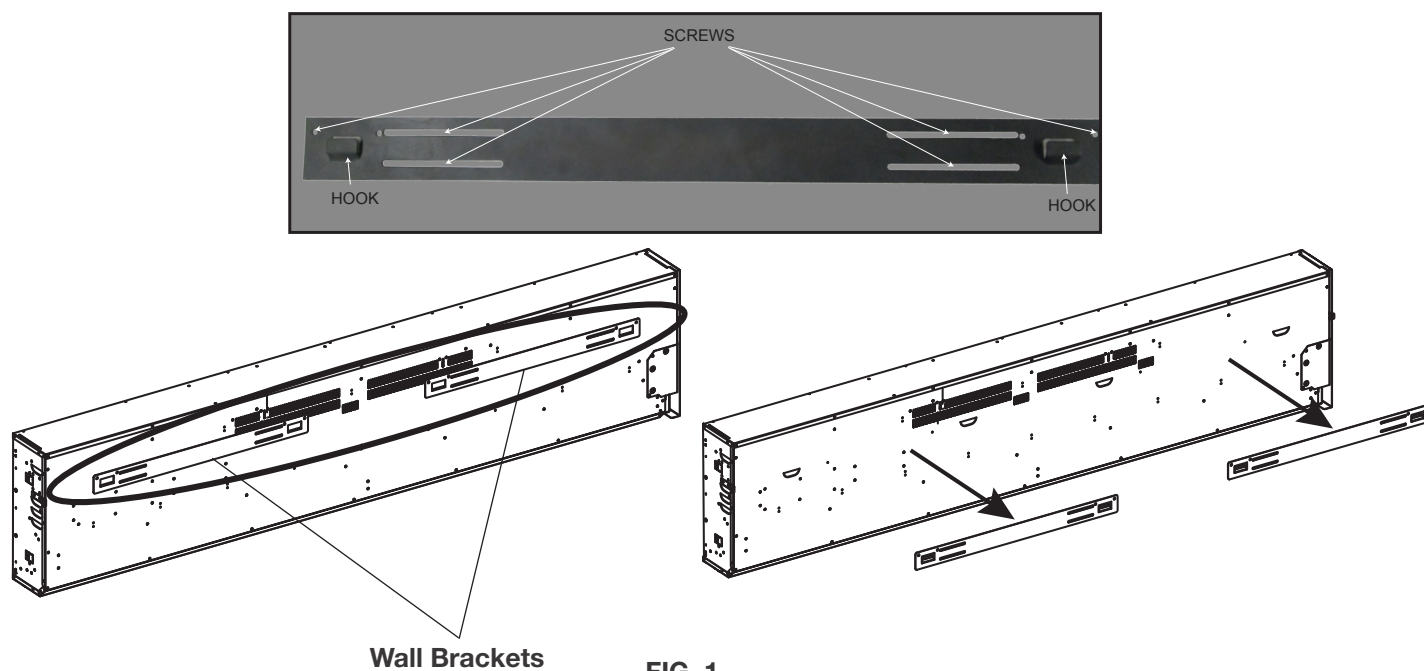

FIG. 1
3. Place appliance face down on a soft, non-abrasive surface. Remove the bracket from the back of the appliance by removing the screws (FIG. 1).